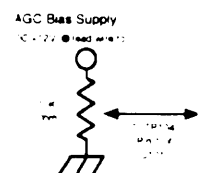

Fig 1.
- 5: Apply a +5.2V DC dummy AGC bias to TP104 (Pin 1 of IC101). (See Fig.1)